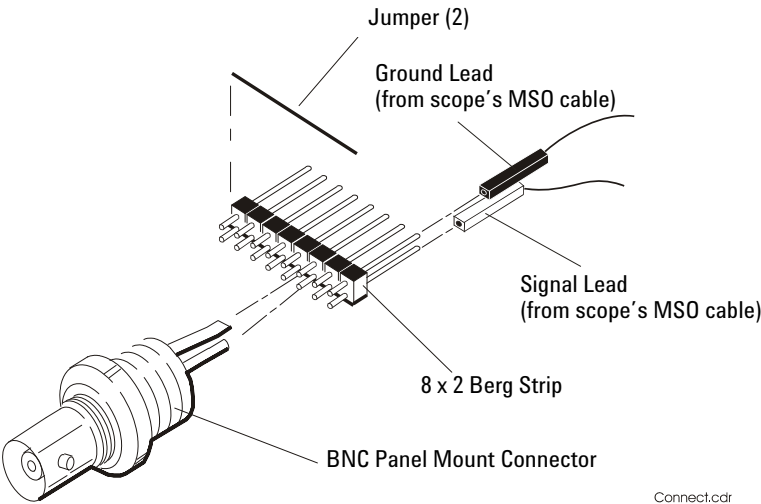

Figure 1 Constructing the 8-by-2 Connector
- 2 On one side of the Berg strip, solder a jumper wire to all of the pins (shown in Figure 1 on page 26).